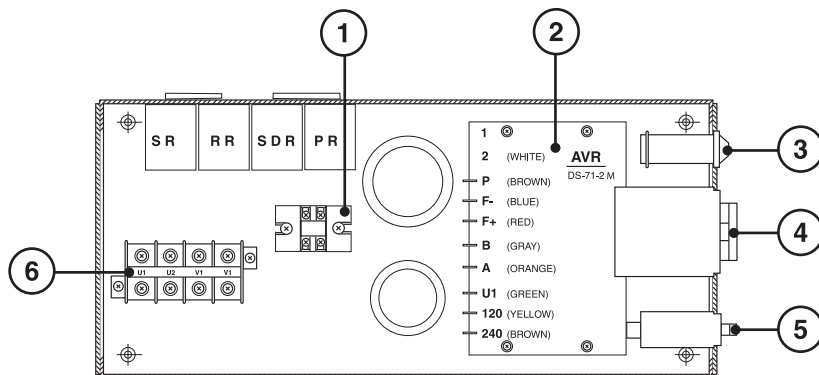

Figure 24: Control Box Components.
3. Generator excitation is provided by activation of the pre-heat circuit and electrical output voltage is controlled by the automatic voltage regulator (AVR) located in the control box (Figure 24, Item 2).
## CONTROL BOX (Figure 24)